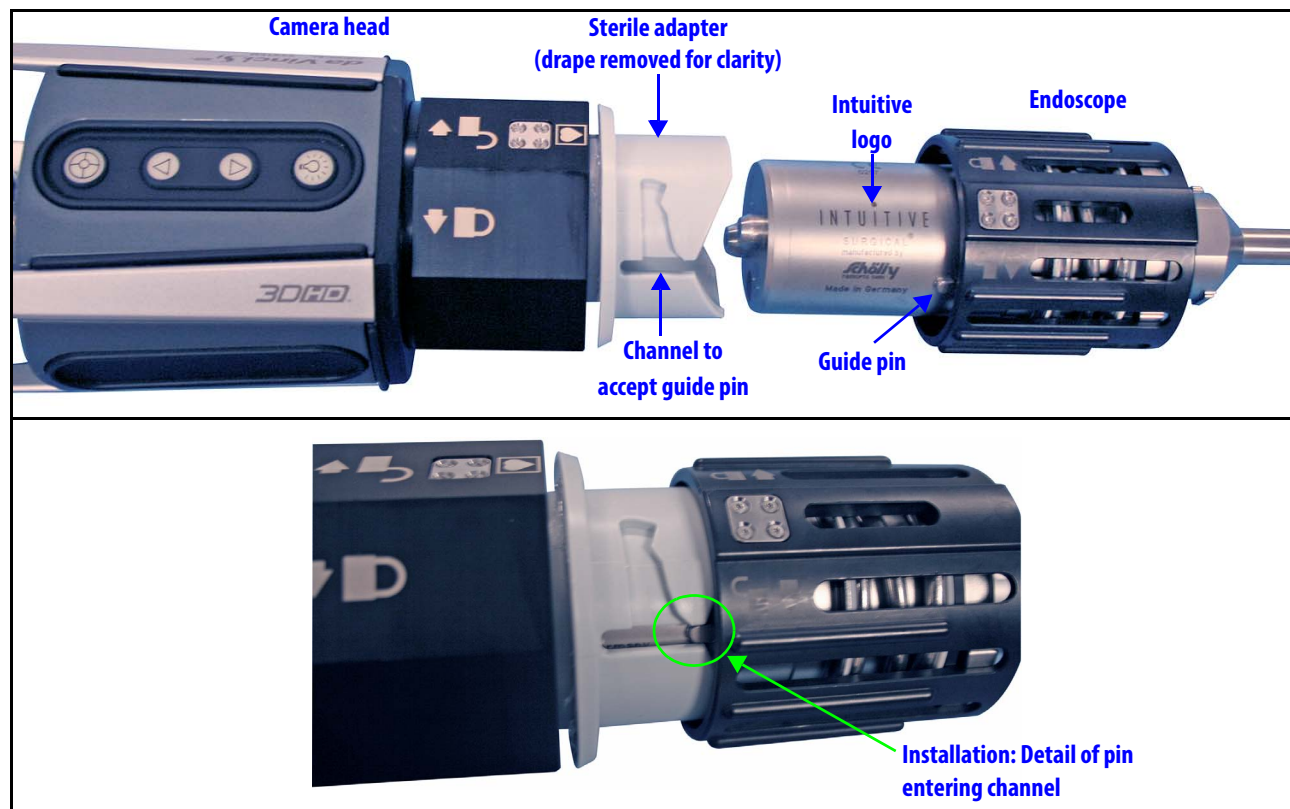

Figure 7.5 Installing endoscope in camera head
- For flat endoscopes (0 degrees), we recommend you install the endoscope on the camera head consistently in the same orientation: with the “Intuitive Surgical” logo on the base of endoscope on the same side as the camera head buttons, as shown above in Figure 7.5.